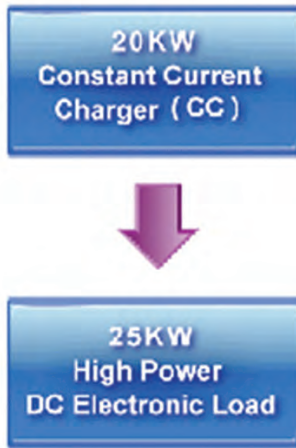

Figure 2: Single Charger connects to a single Load
(CV) or Constant Resistive (CR) mode of operation. This is illustrated in Figure 2. This is due to the 5VP load's OPL function which allows CV or CR mode with parallel loads of unequal power ratings. This capability offers great flexibility in deploying multiple loads for a wide range of power requirements.